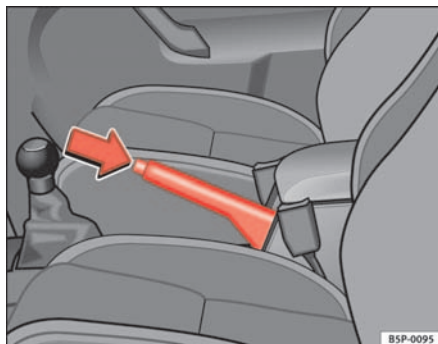

Fig. 100 Handbrake between the front seats
- Pull the handbrake lever up firmly ⇒ **fig. 100**.
- Pull the lever up slightly and press the locking knob in the direction of the arrow ⇒ **fig. 100** and guide the handbrake lever down fully ⇒ .